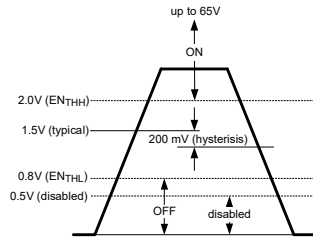

Figure 24. Enable Function Threshold Levels
The LM5060 Enable pin (EN) allows for remote On/Off control. The Enable pin on/off thresholds are CMOS compatible. The external N-Channel MOSFET can be remotely switched Off by forcing the EN pin below the lower input threshold,  $EN_{THL}$  (800 mV). The external N-Channel MOSFET can be remotely switched On by forcing the EN pin above the upper input threshold,  $EN_{THH}$  (2.00 V). Figure 24 shows the threshold levels of the Enable pin.